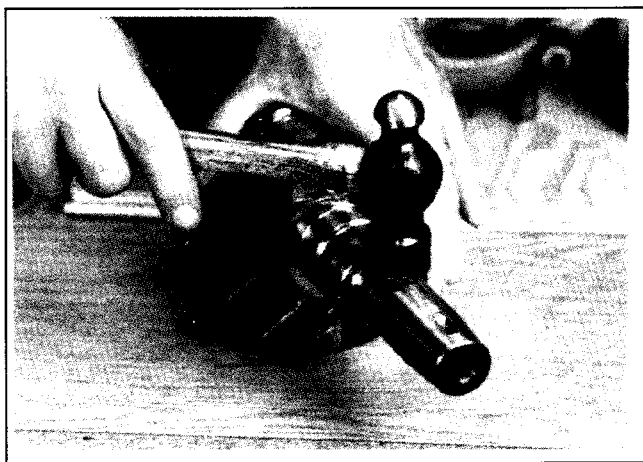

Figure 10-1. Installing Key For Sprocket.
1. Install key in keyway for sprocket. See Figure 10-1.